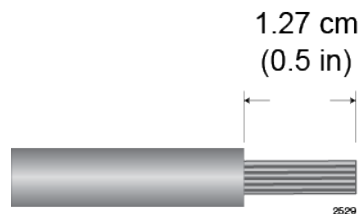

Figure 127. Stripping the Stranded Grounding Wire
1. Prepare an adequate length of stranded 10 AWG grounding wire by stripping it as shown in Figure 127.